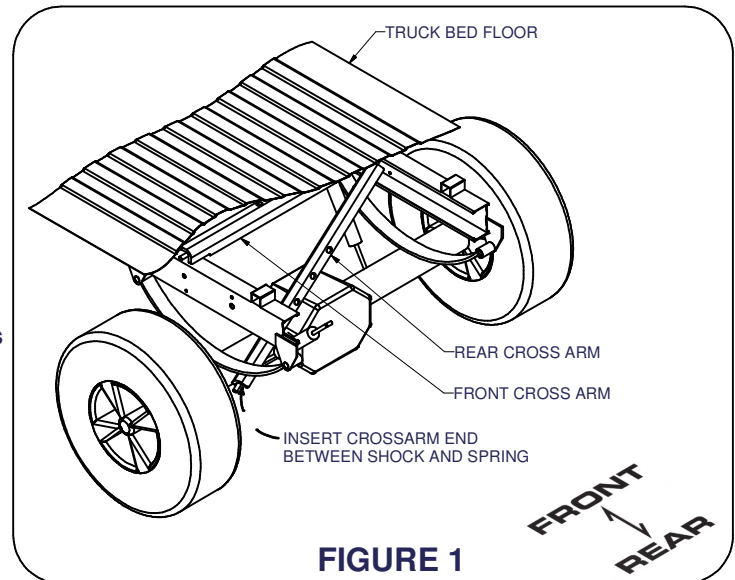
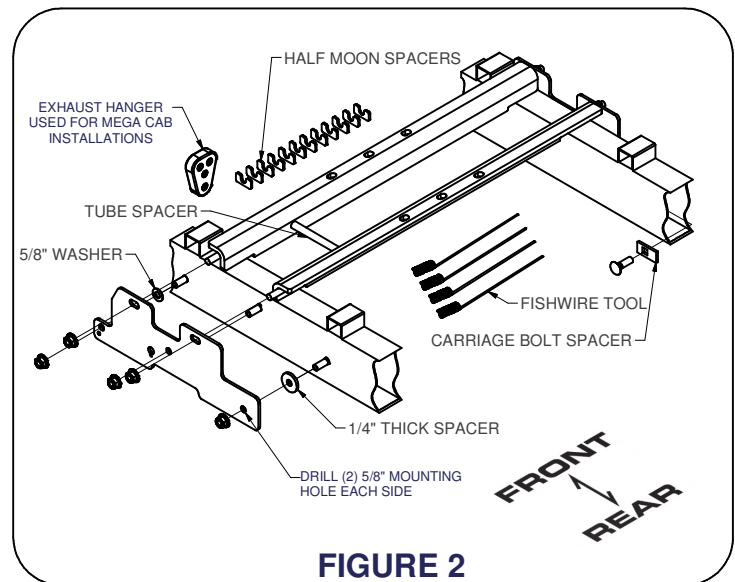
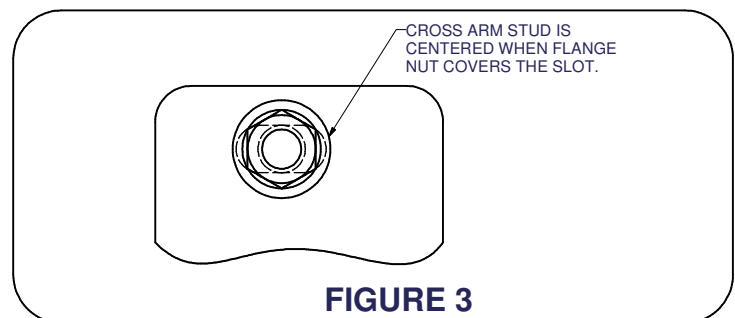

FIGURE 1
FIGURE 2
FIGURE 3
- 1) Install cross arms by inserting them between the shock and spring. **(See figure 1.)** Slide leading end into the gap between truck bed and frame on the passenger side. Swing the other end into the gap between truck bed and frame on the driver's side. **(Note: Holes in the cross arms must face truck bed with cross arm flanges out as shown in Figure 2.)**
- 3) Use an 1 1/2" hole saw to drill an access hole through the bottom of the truck frame. Drill access hole above rear axle, just behind the rubber axle stops. Drill hole on both sides of vehicle as shown in **Figure 2.**
- 4) Fishwire 5/8" carriage bolts and spacers through the previously drilled access holes. Pull carriage bolt threads out existing frame hole toward the front of truck, each side. Place a 5/8" washer between side plate and frame when pulling fishwire out through the side plates as shown in **Figure 2.** Secure each plate in place with a 5/8" flange nut. Finger tight only.
- 6) Center the rear cross arm studs in the side plate slots as shown in **Figure 3.** Use a 15/16" wrench to tighten the 5/8" flange nuts, on rear cross arm, to the side plates. Use the 6 1/2" tube spacer provided to evenly space the cross arms as shown in **Figure 2.** Tighten the 5/8" flange nuts on the front cross arm to hold spacing. **(Note: Cross arms must be rotated vertical to truck bed as shown in Figure 2.)**